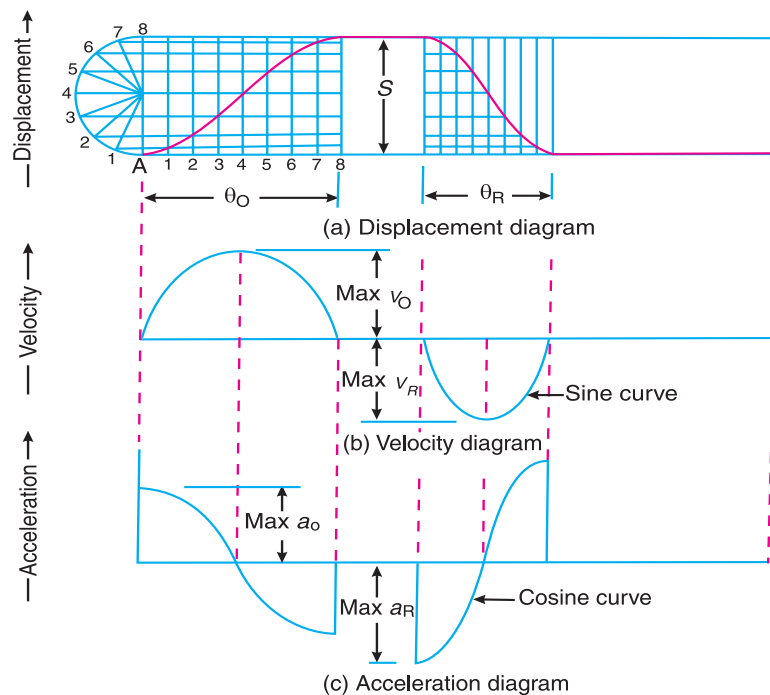

Fig. 20.6. Displacement, velocity and acceleration diagrams when the follower moves with simple harmonic motion.
The displacement, velocity and acceleration diagrams when the follower moves with simple harmonic motion are shown in Fig. 20.6 (a), (b) and (c) respectively. The displacement diagram is drawn as follows :
4. The displacement diagram is obtained by projecting the points as shown in Fig. 20.6 (a).
The velocity and acceleration diagrams are shown in Fig. 20.6 (b) and (c) respectively. Since the follower moves with a simple harmonic motion, therefore velocity diagram consists of a sine curve and the acceleration diagram is a cosine curve. We see from Fig. 20.6 (b) that the velocity of the follower is zero at the beginning and at the end of its stroke and increases gradually to a maximum at mid-stroke. On the other hand, the acceleration of the follower is maximum at the beginning and at the ends of the stroke and diminishes to zero at mid-stroke.